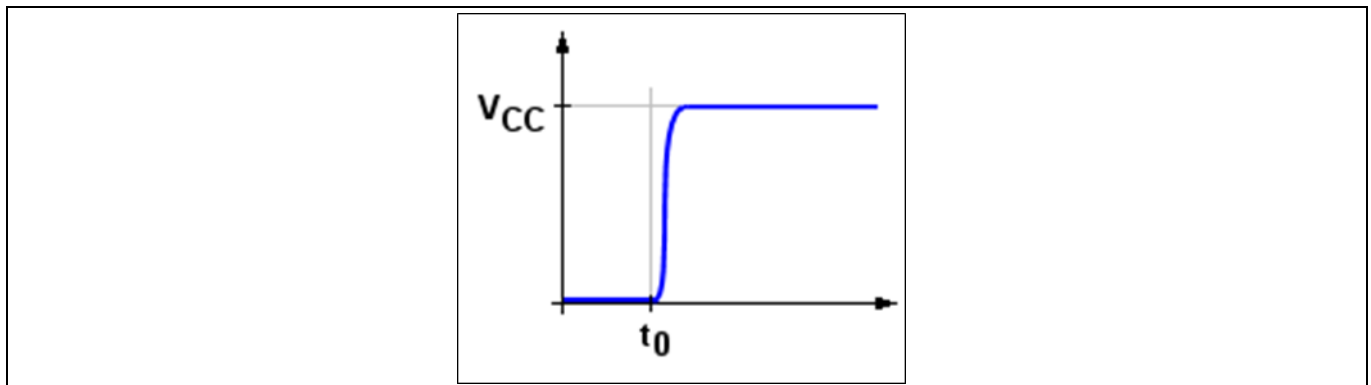

Figure 8 Signal rise after closing the switch at Point (A).
By closing the switch software at time t_0 , as shown in Figure 8, the voltage can be measured at point (A).